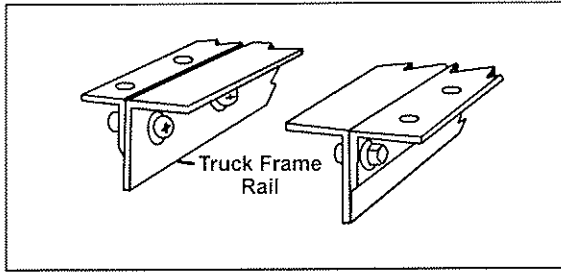

Fig. 10
2. Clamp the vertical leg of outboard angles to the tractor frame. The top of the outboard angle horizontal leg should be flush with the top of the tractor frame. (See Fig. 10.)